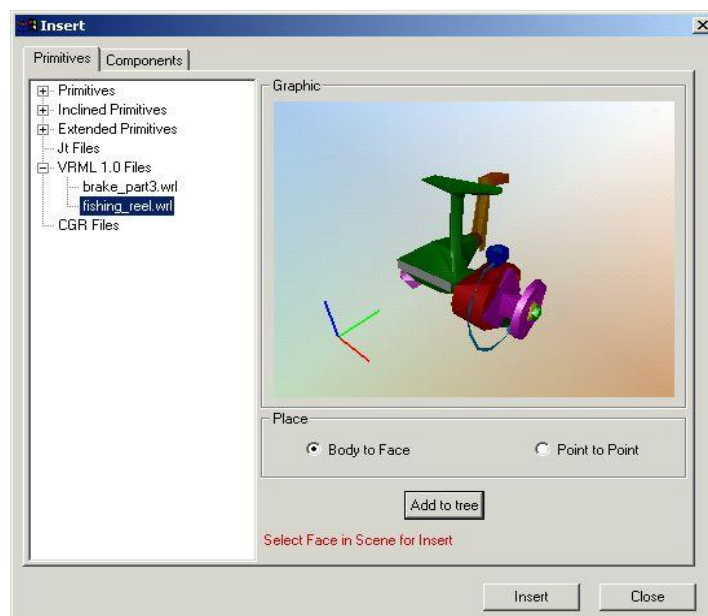

Figure 73: Import File is displayed in the Directory
- 4) Select a file and click **Open** button. The file is imported to the directory of the **Insert** dialog. *Please refer to the Figure 73.*
- 3) Open the **VRLM** directory. Select a file from the directory. The graphic is always displayed in the form of a preview. Please refer to the Figure 73.